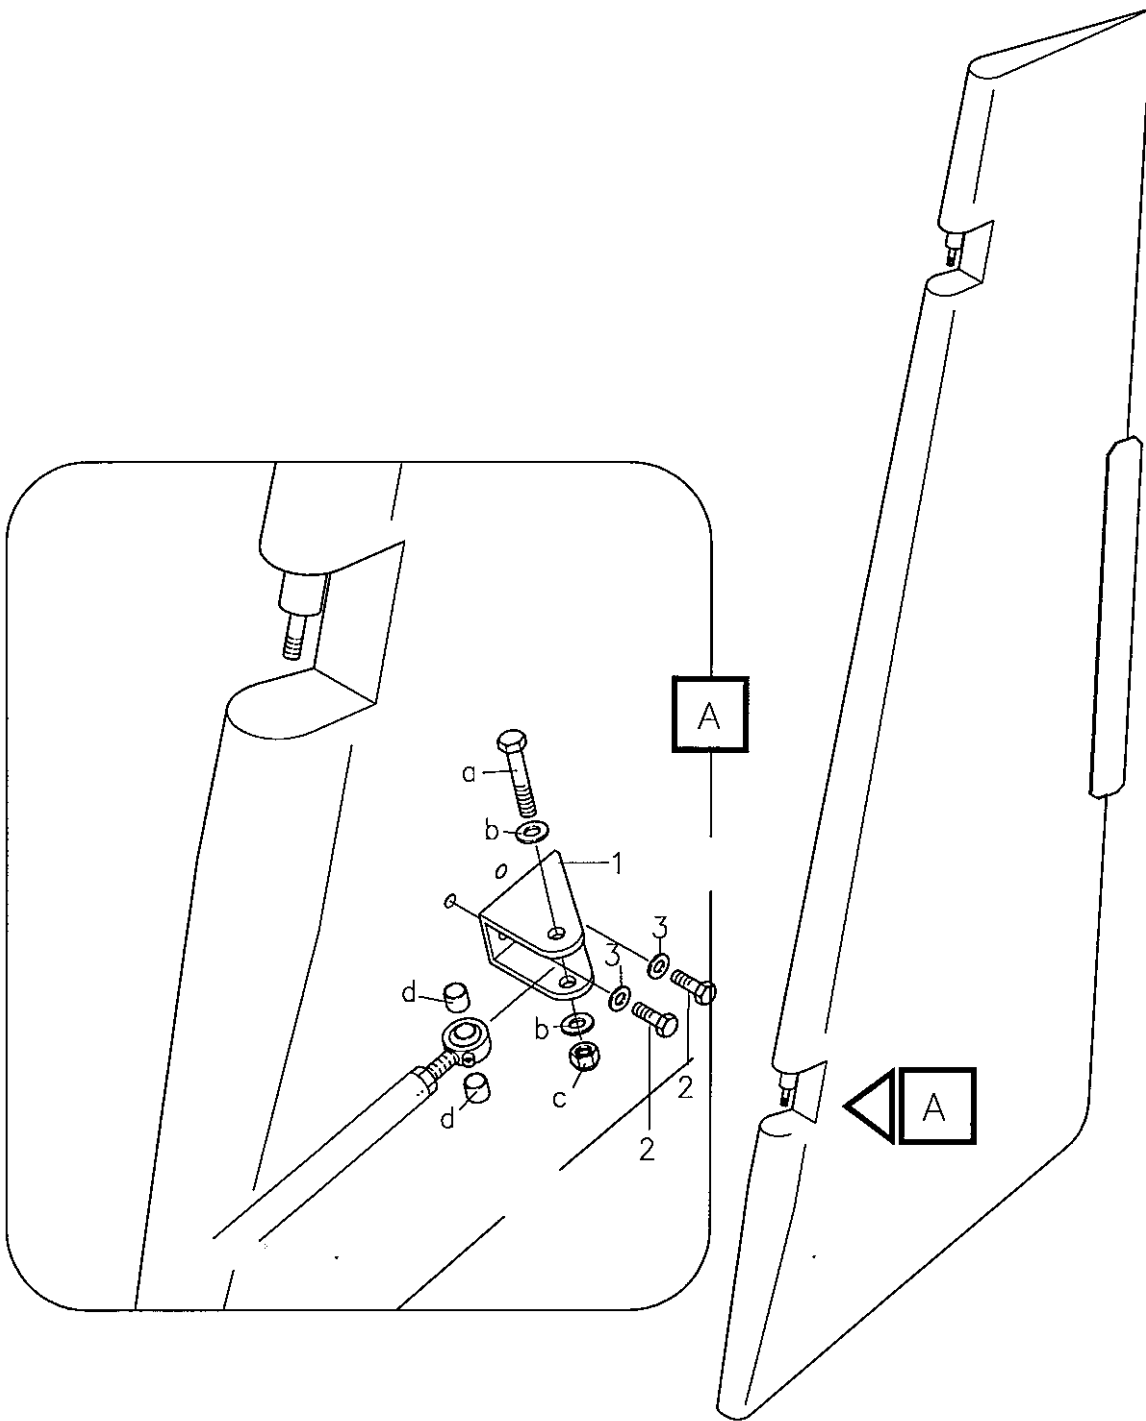
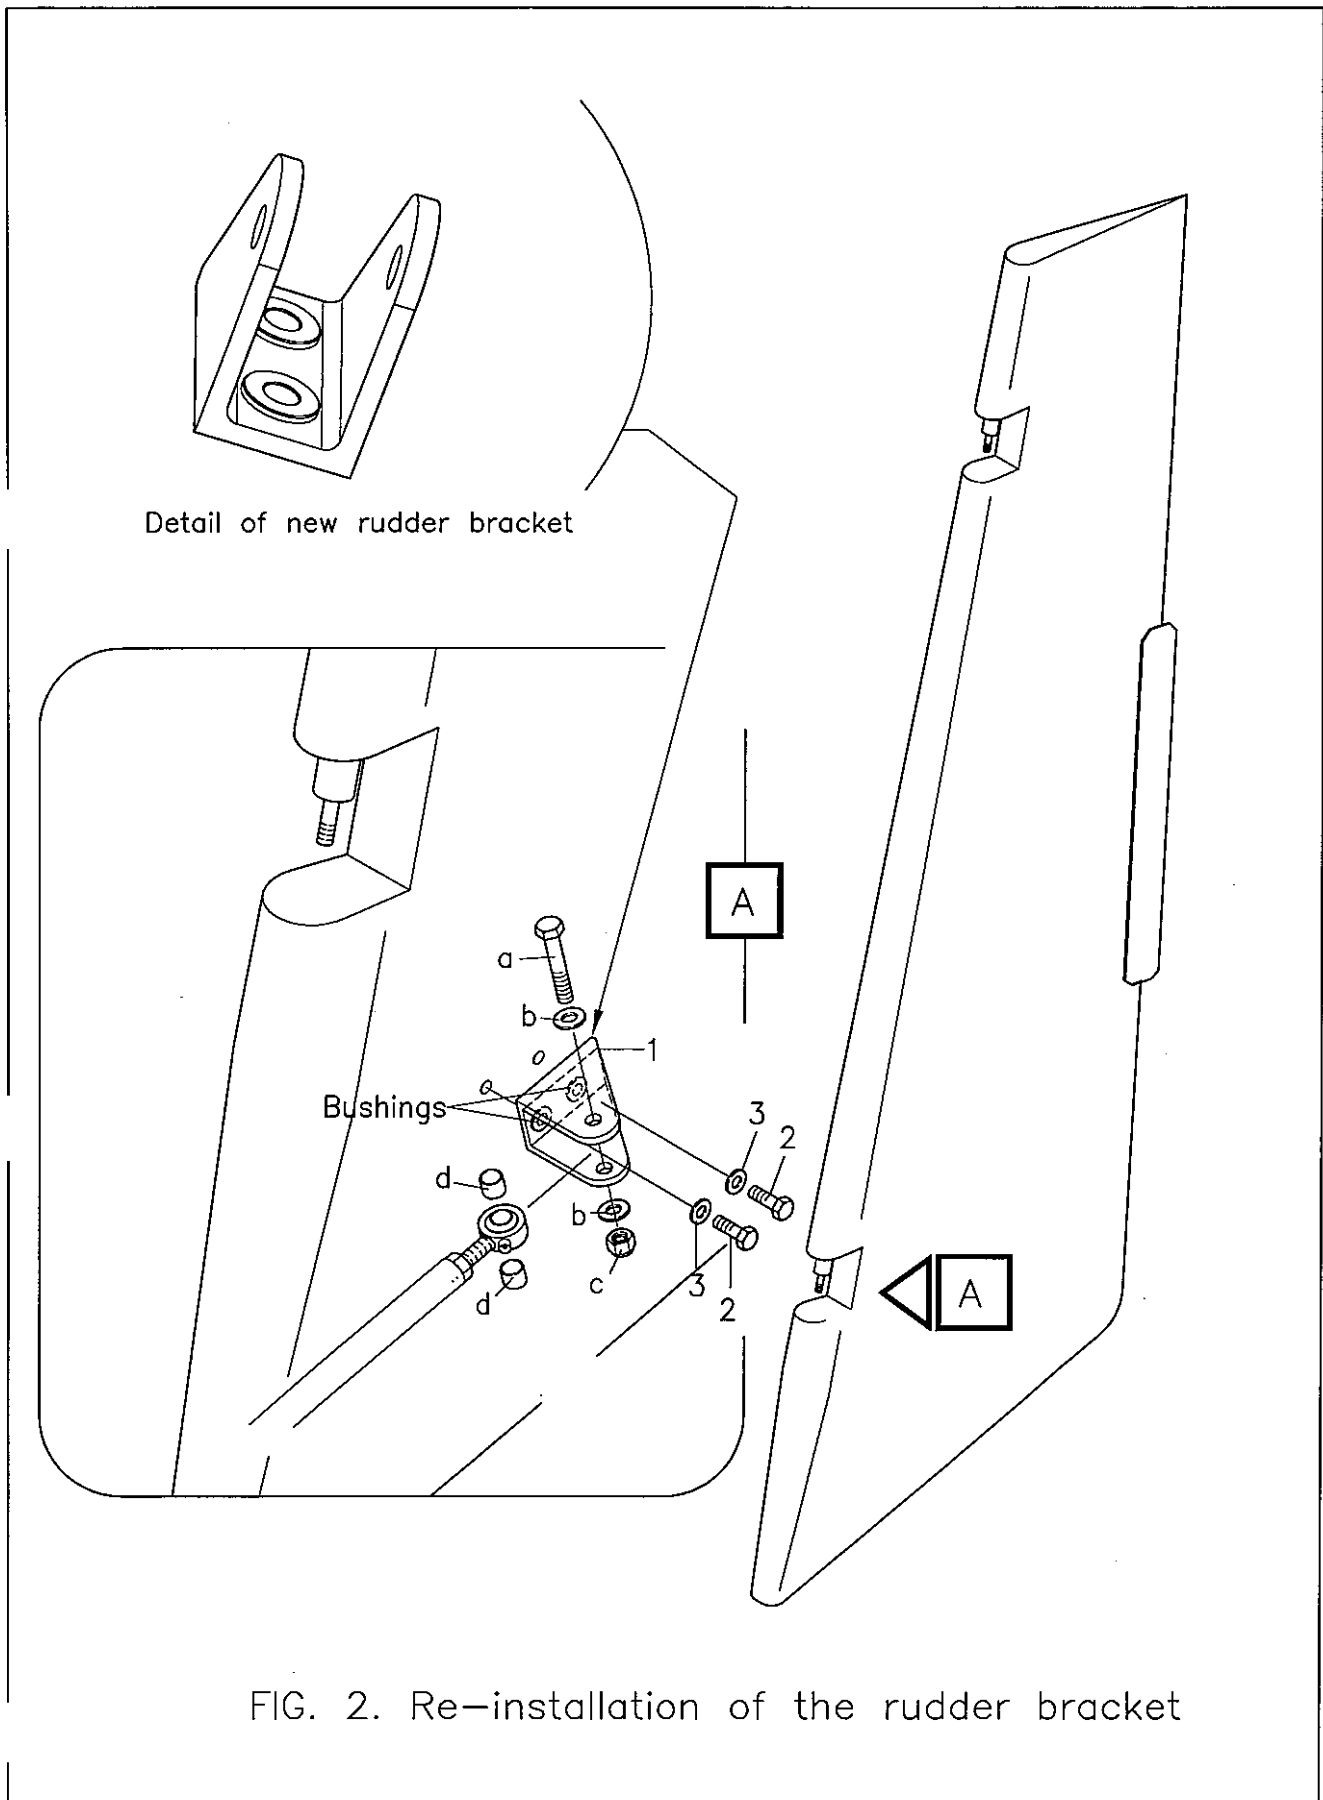

FIG. 1. Removing of rudder bracket
FIG. 2. Re-installation of the rudder bracket
*On the rudder control line bracket (identified in the enclosed figure 1 - detail 1), installed on a Sky Arrow ultralight aircraft, a machining fault has been detected.*
*The scope of this Service Bulletin (SB) is to inform all the owners/users of Sky Arrow aircraft / kit indicated at previous page (section "Applicability") about the necessity to replace the subject bracket, as indicated in paragraph 3 (INSTRUCTIONS), as soon as the material provided with this SB is available if the aircraft operative time exceeds 50 hours, otherwise at the first 50 hours inspection.*
1. *Remove the screw, the washers, the nut, and the spacers that fix the ball joint of the yaw push rod to the subject bracket. (see fig. 1, details a, b, c, d.). These fixing parts will be used to connect the push rod to the modified bracket (see instruction 4)*
<p>2. Rimuovere la staffa della linea di comando (particolare 1 fig.1.), dal timone, svitando le due viti di fissaggio (particolare 2 fig. 1) e rimuovendo le rondelle (part. 3 fig. 1)</p> <p>3. Installare la nuova staffa al posto della vecchia (part. 1 mostrato in figura 2), interponendo le rondelle (part. 3 figura 2) e avvitando le due viti M5 (part. 2 in figura 2) con coppia di serraggio pari a 3 Nm. La nuova staffa ed il kit d'installazione sono forniti dalla 3I.</p> <p>4. Collegare lo snodo sferico dell'asta di comando alla staffa, riposizionando la vite (a), le rondelle (b), il dado (c) e i due distanziali (d) smontati in precedenza (vedi istruzione 1) così come mostrato in figura 2.</p>	<p>2. Remove the control line bracket (fig. 1, detail 1) from the rudder, unscrewing the two fixing screws (detail 2 fig.1) and removing the washers (detail 3 fig. 1).</p> <p>3. Install the new bracket (det. 1 shown in fig. 2), using the bushings, the washers and the screws (det. 3 and 2 in fig. 2) provided by 3I as indicated in figure 2. Tighten the screws up to 3 Nm</p> <p>4. Connect the ball joint of the push rod to the bracket, using the screw (a), the washers (b), the nut (c) and the two spacers (d) as shown in fig.2.</p>